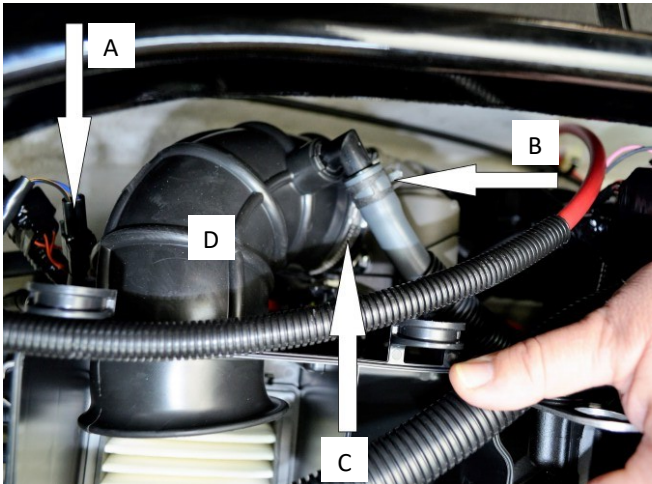

Figure 7
Unplug Tip Over Switch (A). Squeeze clamp and remove crankcase vent hose (B) from intake duct fitting. Loosen clamp (C) and remove intake duct (D) from air box and throttle body. (Figure 7) **Note: Retain OEM clamp at throttle body for use later.**